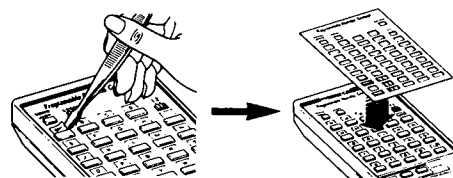

Fig. 21
**How to use the function seals and template (Fig. 21)**
Use them referring to Fig. 21, as required.